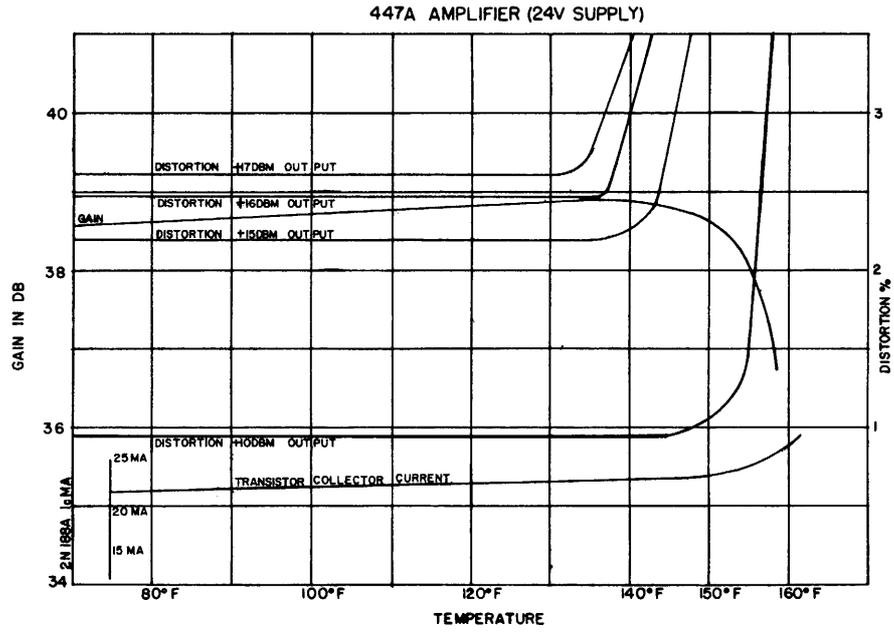
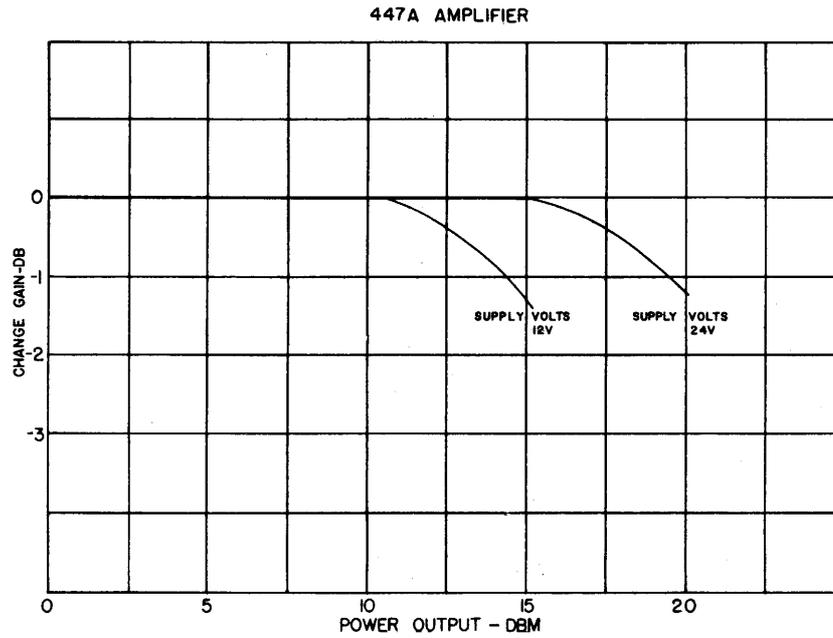

FIG. 5
FIG. 6
3.03 Gain characteristics, distortion characteristics, and the output transistor collector current characteristics over the temperature range of 80°F to 160°F are shown in Figure 5. At elevated temperatures the power rating of the transistor decreases appreciably: and, while the data of Figure 5 was obtained under 24 volt operation, it is necessary to decrease the supply to 12 volts for continuous operation of the unit at high temperature. Change of gain vs. output power characteristic at the normal and reduced voltages is shown in Figure 6. Total current consumption at 12 volts is 12 ma.